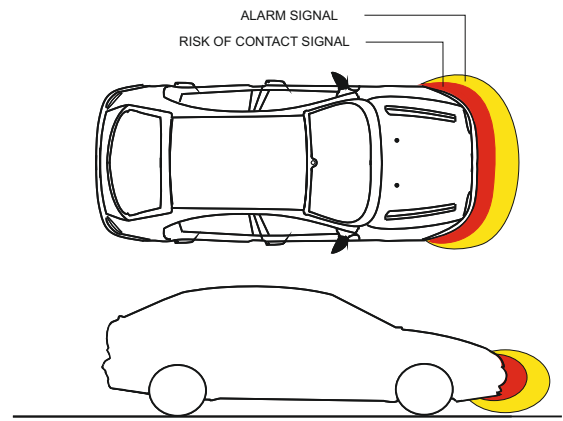

Fig. 6
The activation of the device is obtained by pressing the activation button and confirmed by a signal of "OK". Once activated, the EPS-FRONT 3.0 generates around the bumper, on which is installed, a protection zone (Fig. 6). When any obstacle present in the protection zone tends to approach the bumper you will hear a series of beeps.
- The distances will vary depending on the size of the obstacle and correspond to the central zone of the bumper; on the lateral edges the distances is less (see Figure 6)